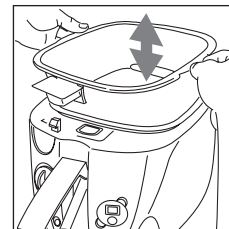

fig. 19
- Remove the bowl from the fryer by lifting it gently (see figure 19) and wash it with hot water and washing up liquid using a soft sponge. Never use abrasive detergents or sponges as they could damage the nonstick surface of the bowl. Do not remove the hose from the bowl in order to wash them separately. Do not remove the hose clip.
- To replace the bowl in the fryer, proceed as follows: open the door of the hose storage compartment, insert the bowl at a slight angle ensuring the hose goes in first. Position the hose in the storage compartment and close the door (fig. 19).